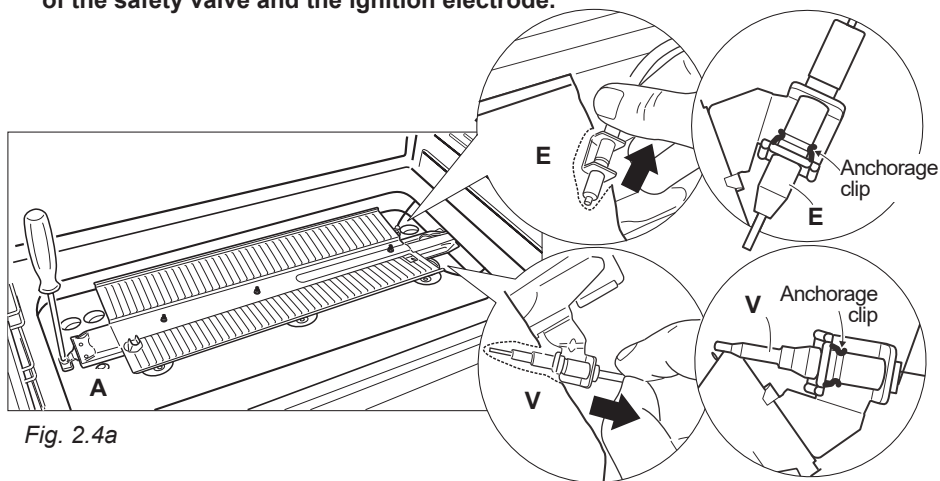

Fig. 2.4a
- Gently unlock, from the burner, the safety valve probe “V” and the ignition electrode “E” (as indicated in fig. 2.4a). Take care not to damage the probe and the ignition electrode.
- Unscrew and remove the burner securing screw “A” (fig. 2.4a).
IMPORTANT: Pay special attention to replace correctly the safety valve probe “V” and the ignition electrode “E” as per figure 2.4a. Check the correct operation of the safety valve and the ignition electrode.